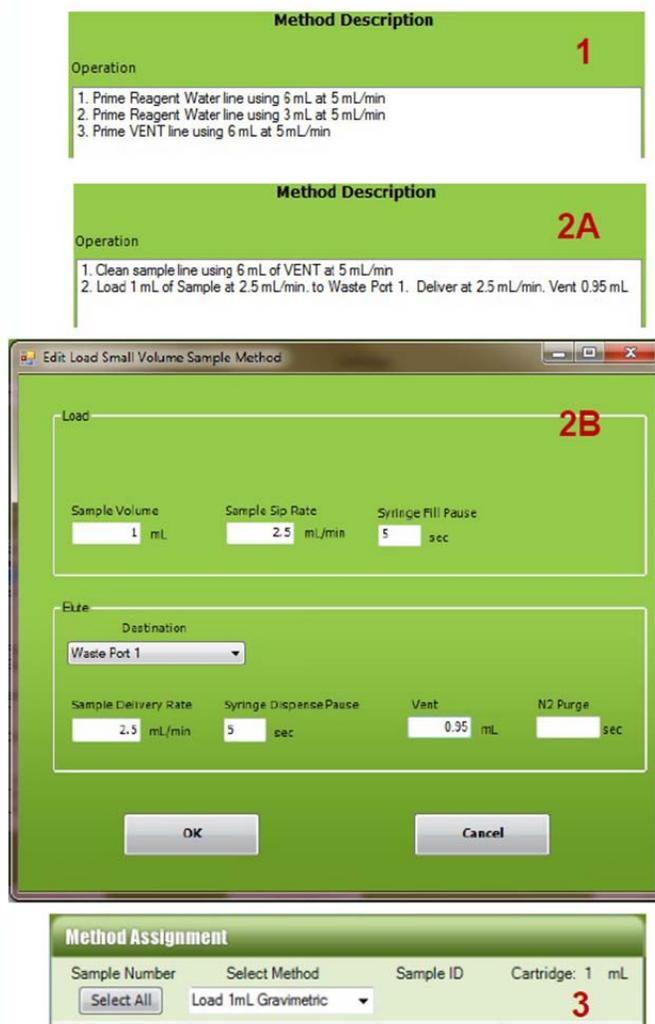

Figure 5-24. Methods to use in Gravimetric verification of TV2 and TV3 values
- Step 7: Start the SmartPrep Extractor, following the SmartPrep Method section outlined in Figure 5-24.